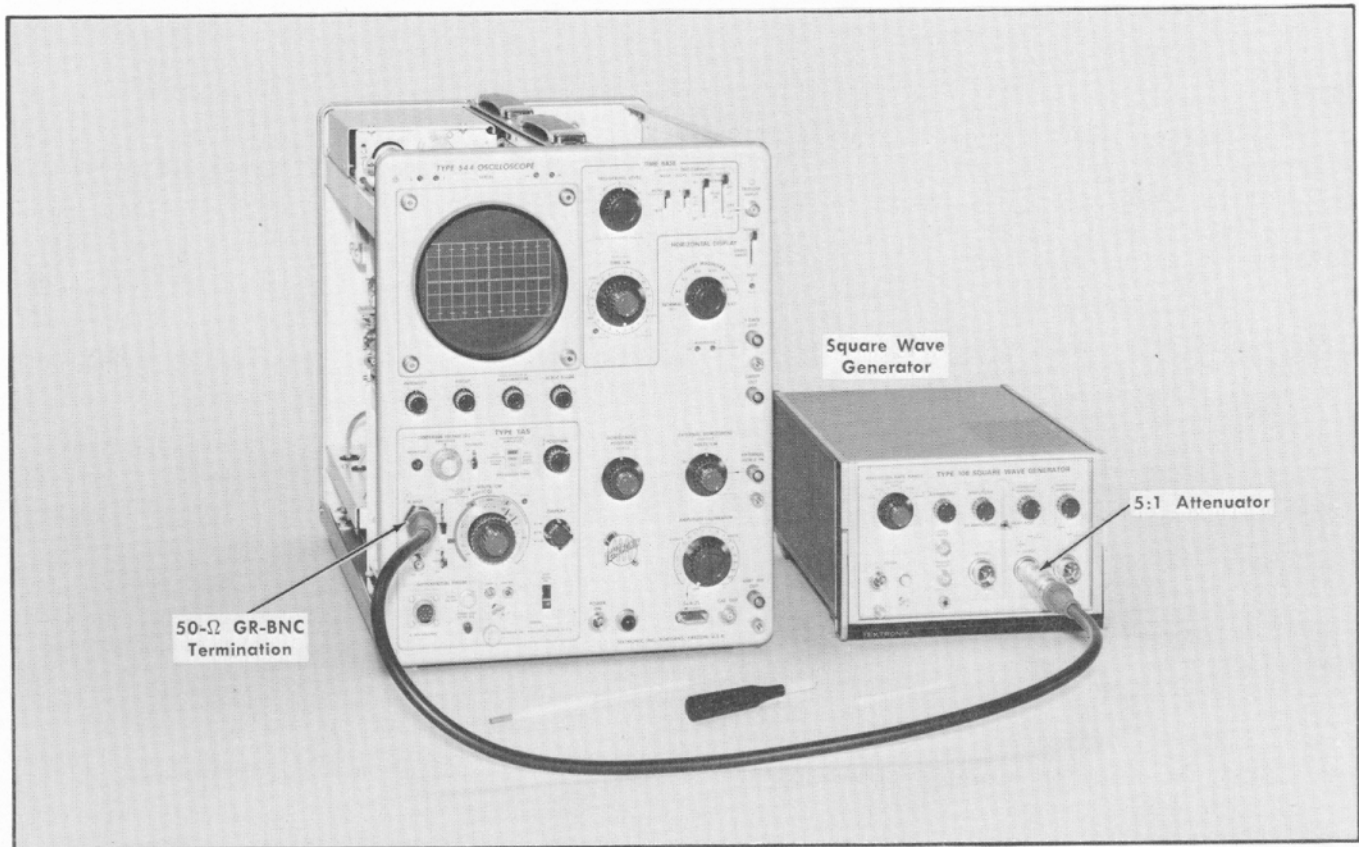
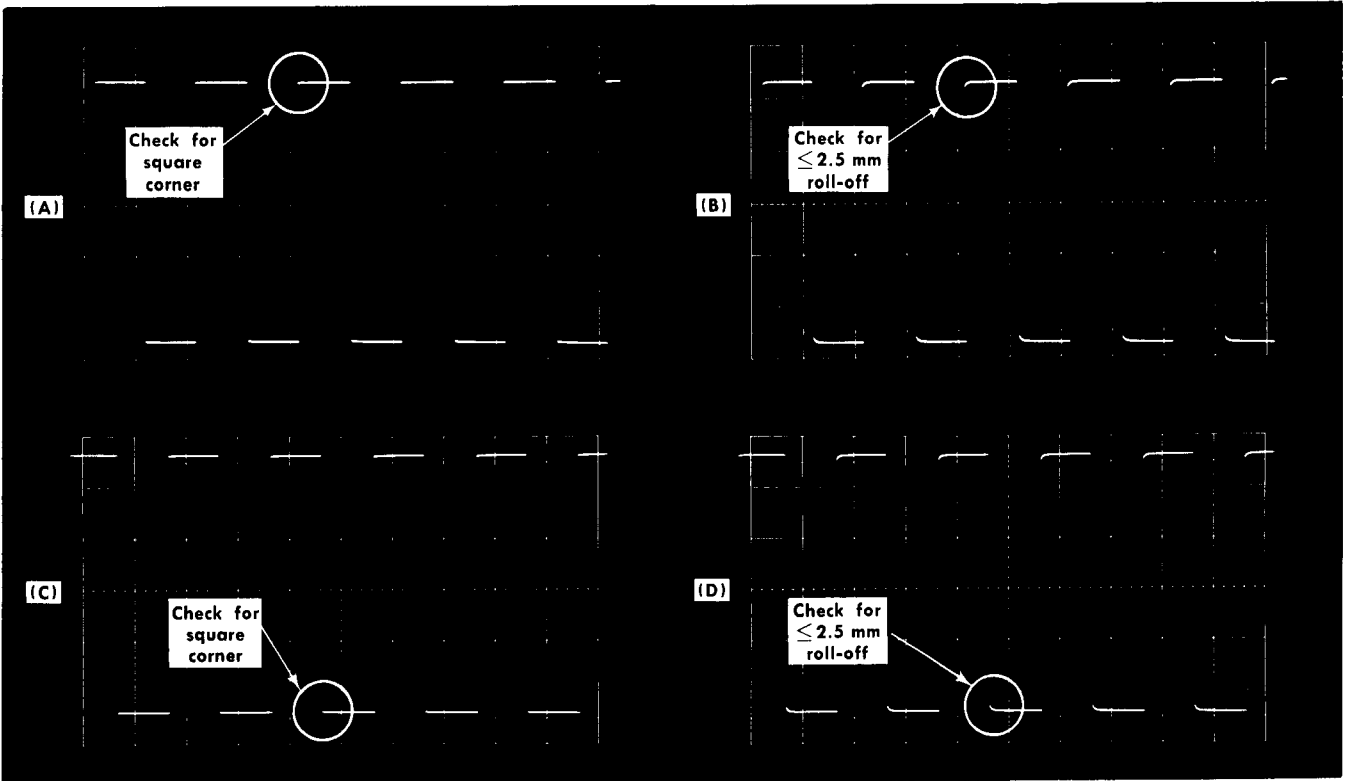

Fig. 6-22. Equipment setup for steps 20 and 21.
Fig. 6-24. Total crosstalk check—step 21. (A) and (B): A INPUT. (C) and (D): B INPUT.
a. Equipment setup is shown in Fig. 6-22. Adjustment locations and typical waveforms are indicated in Fig. 6-23.
a. Equipment setup is shown in Fig. 6-22. Typical waveforms are shown in Fig. 6-24.
f. Check for a square upper left corner of square wave as in Fig. 6-24 (A).
h. CHECK—2.5 mm or less A INPUT roll-off at upper left corner of square wave. See Fig. 6-24 (B).
j. Check for a square lower left corner of square wave as in Fig. 6-24 (C).
l. CHECK—2.5 mm or less B INPUT roll-off at lower left corner of square wave. See Fig. 6-24. (D).